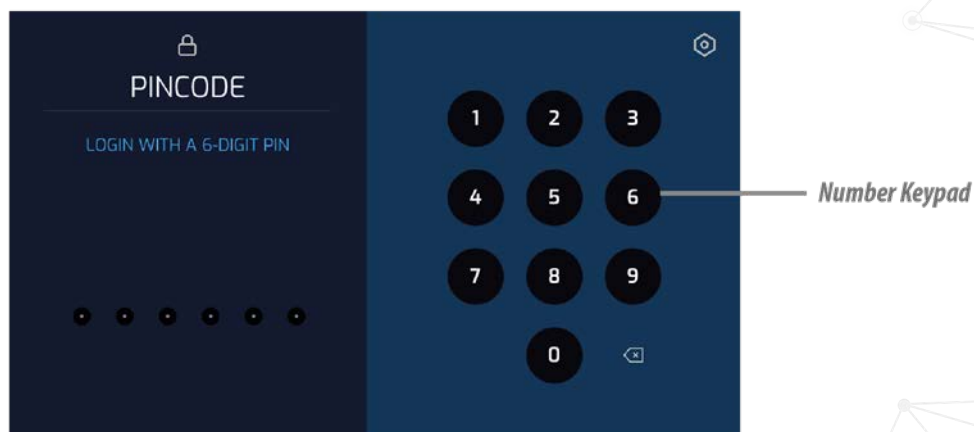

Figure 8: PIN Code Screen
4. Enter the relevant Operator or Admin/Lab User PIN code using the touch Screen digits as illustrated in Figure 8.